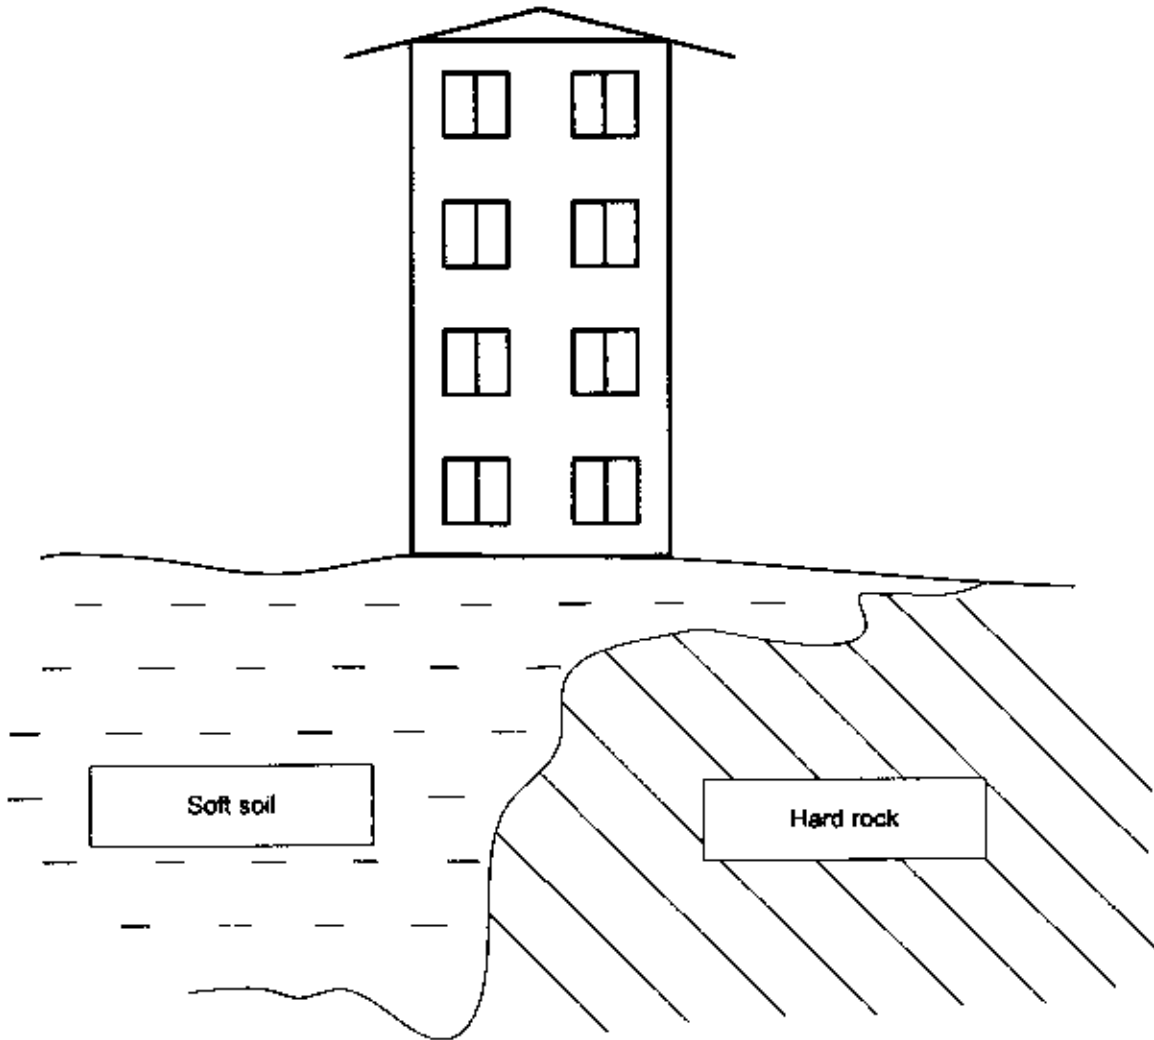

FIGURE Q5
- (d) A four storey residential building will be built on a land with the soil profiles as shown in Figure Q5. Suggest a solution for the foundation problem of the building. (5 marks)